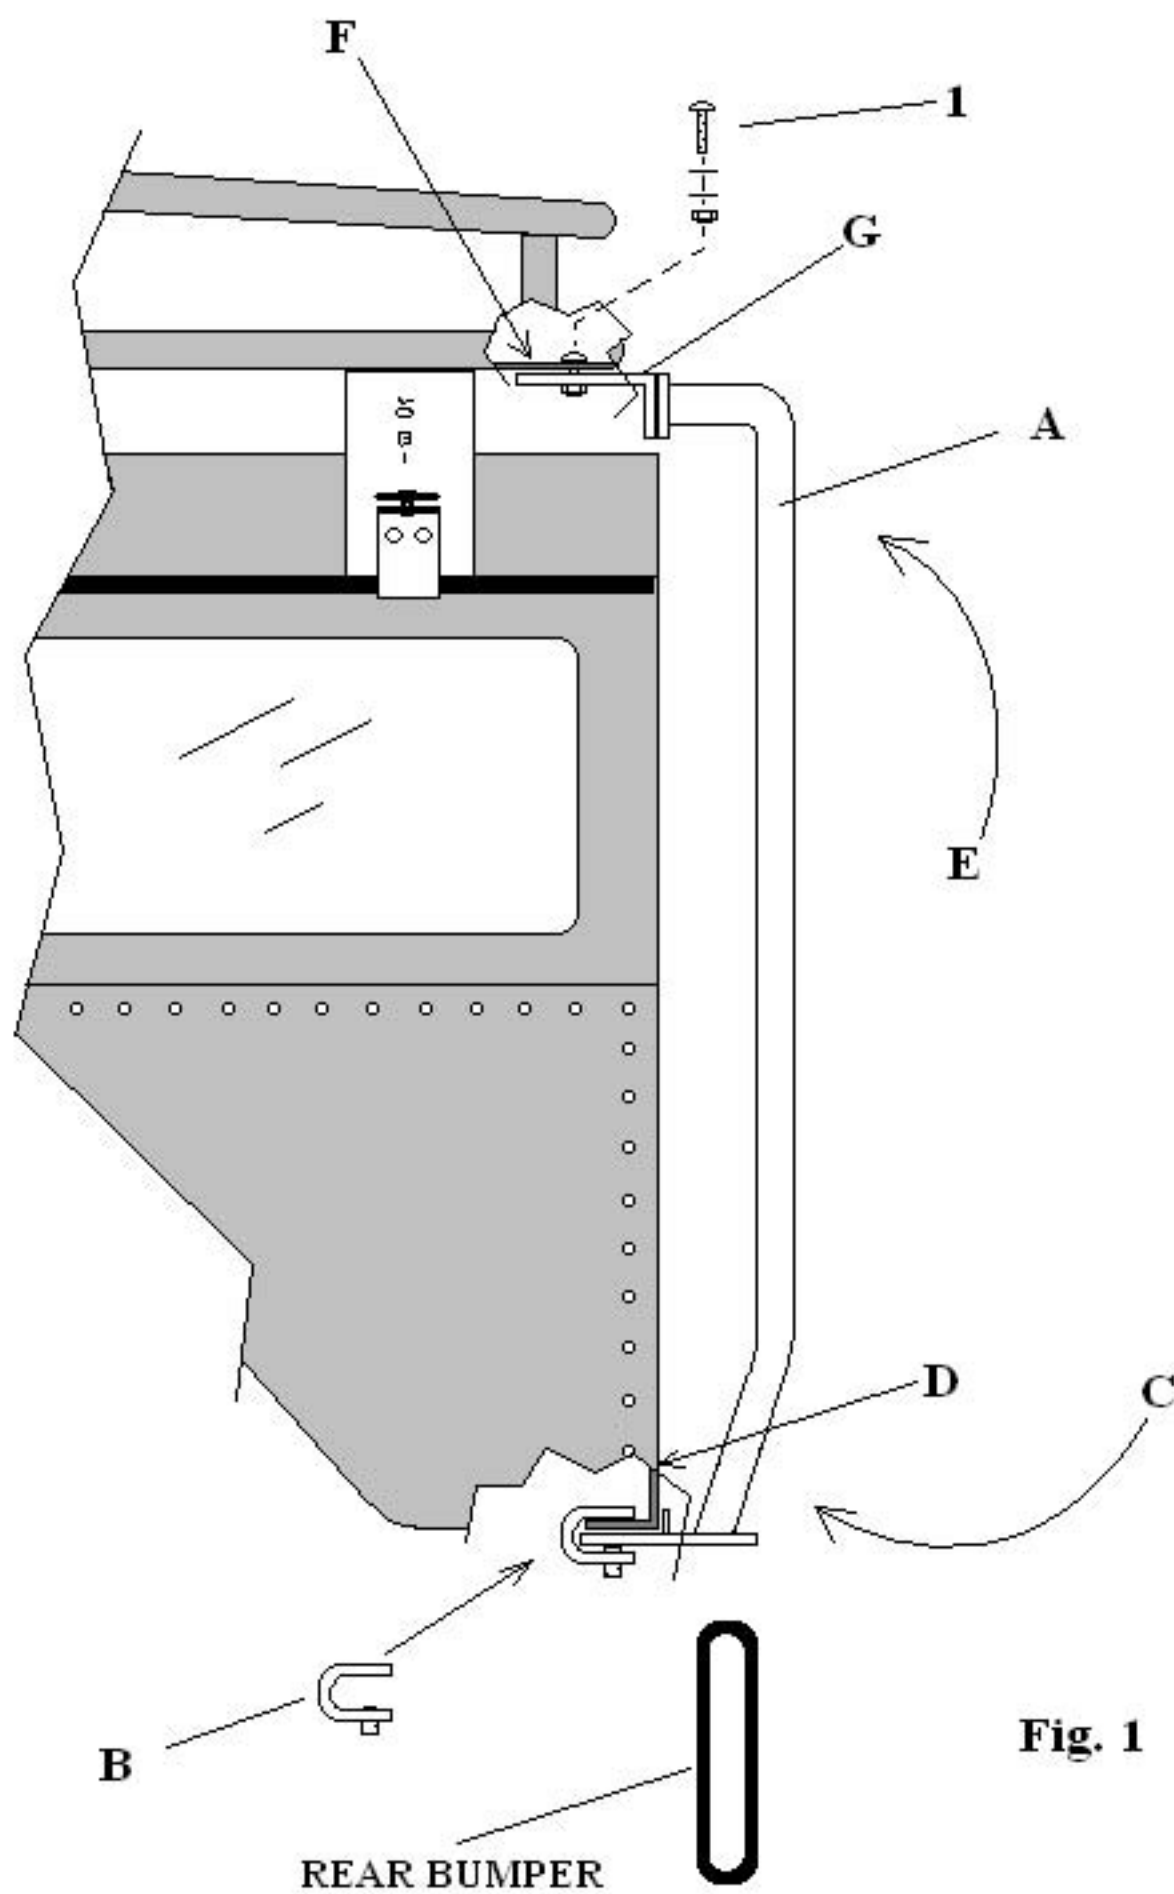

Fig. 1
- 2- Start by contacting the lower end of the ladder "C" against the bottom of the vehicle body "D" as shown in Fig. 1 page 3 and Fig. 2 page 4. Then slide the upper end of the ladder in direction "E" as shown in Fig. 1 page 3 under the Gobi rack rear light bar "F". Attach screws #1 Fig. 1 page 3 and Fig. 2 page 4 through the top of rear Gobi rack light bar "F" then through upper Gobi ladder bracket "G" and attach washers and lock nuts found in Plastic Bag "C" finger tighten at this time. Ladder bracket "G" is adjustable for potential variances in the vehicle body.
- 3- Place C-clamp "B" over the vehicle body and Gobi ladder as shown in Fig. 1 page 3. Keep pressure applied to the Gobi ladder against the vehicle during the tightening process of the C-clamp. Be sure the C-clamp is completely seated against the vehicle inner body and the Gobi ladder is completely seated against the vehicle outer body. Only snug down C-clamp at this time.